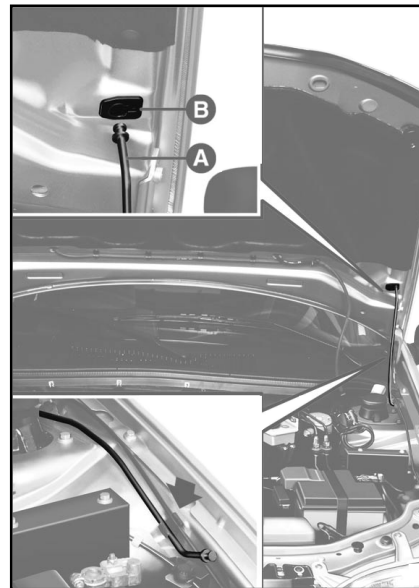

fig. 65
3) Lift the bonnet and release the support rod **A**-fig. 65 from its clip.
1) Hold the bonnet up with one hand and with the other remove the rod **A** - **fig. 65** from the recess **B** and replace it in its clip.